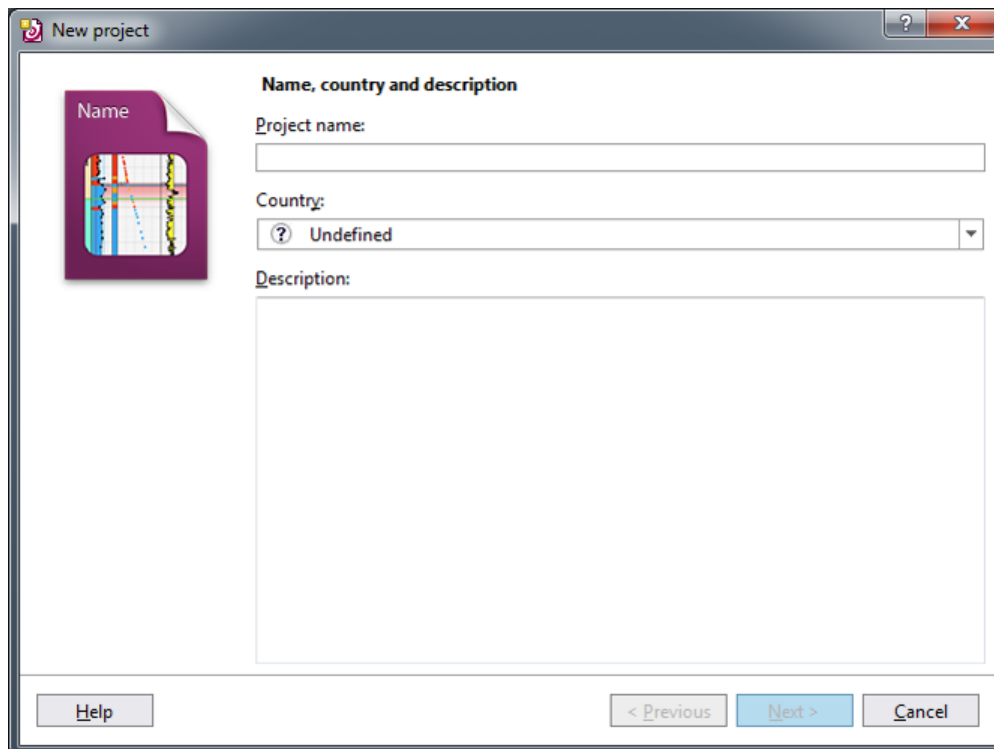

Figure 3: First of four windows that appear in creating a new project.
3. On the upper left corner, click on Project > New. A New project window will appear (Fig. 3). Enter a project name (e.g. Exp123) and click Next.